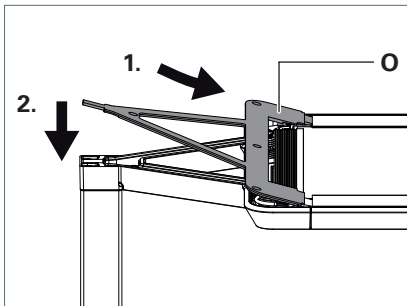

Fig. 9: Fitting the cover.
- ▶ Set the cover **O** with the three tabs on the underside of the cover into the recesses on the luminaire head and press the cover firmly, see Fig. 9.